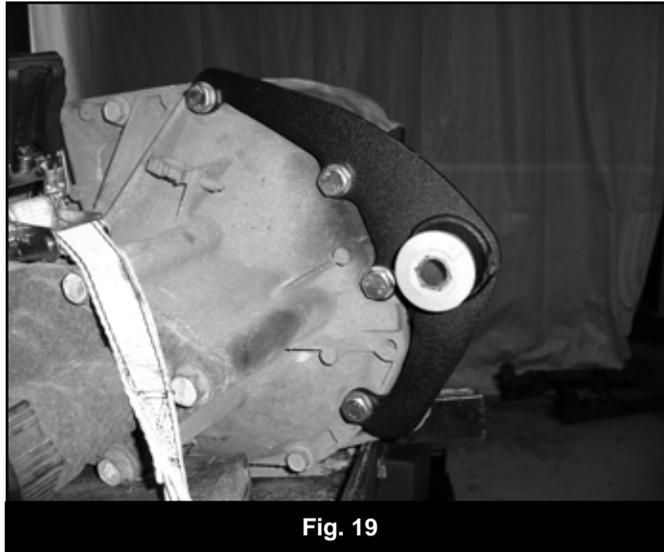

Fig. 19
38. Install the provided large bushings (3624RB) and 0.750" OD x 2.950" long sleeve (15) into the eye of the new driver's side differential bracket (O1185).
39. Place the driver's side differential bracket up to the front of the differential to indicate the four housing bolts that need to be removed. Remove the four bolts, place the bracket in position and fasten with new 10mm x 60mm bolt and washers (BP 539). Use Loctite on the bolt threads and torque to 30 ft-lbs (Fig 19).